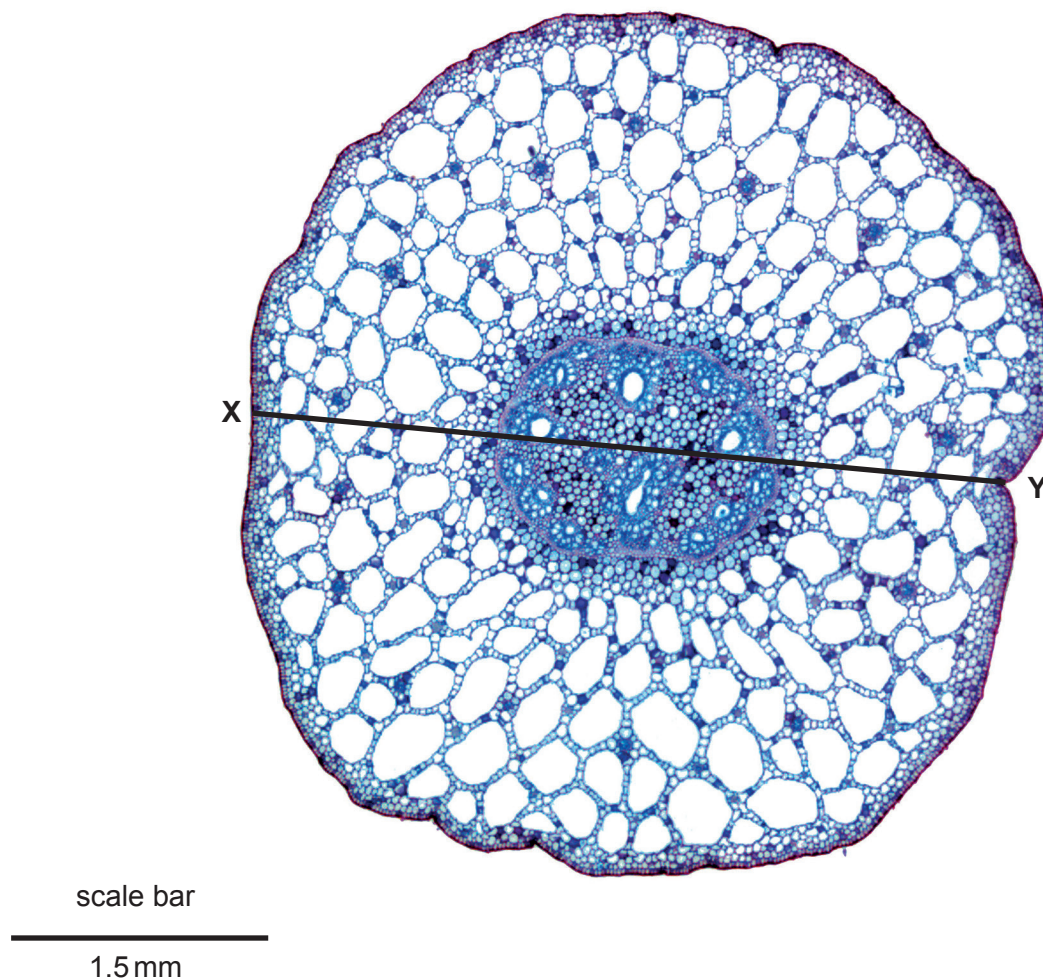

Fig. 2.2
- (i) Use the scale bar on Fig. 2.2 to calculate the actual diameter of the stem indicated by line X–Y.